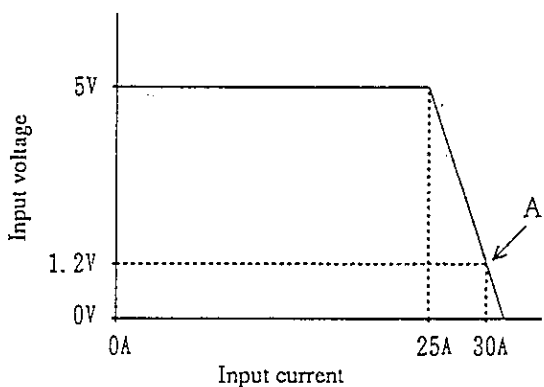

Figure 3.5-13
① When in the load-on state, press the [SHIFT] + [SW] (SHORT) keys to enable the Short mode.
- Data [30.00A] at the left hand end on the top row indicates that the current limit of the regulated DC power supply is at point "A" (30.00 A) on the droop curve shown in Figure 3.5-13. Data [1.20V] also indicates a value under the similar conditions. In this case the I SET value is at 30.00 A.